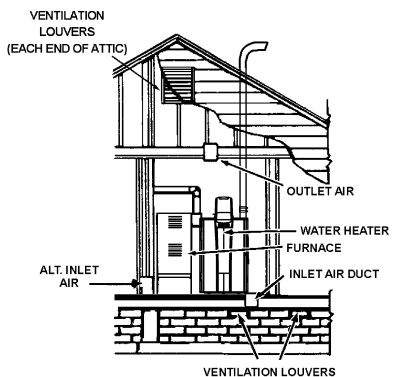

FIGURE 12
B. ALL AIR FROM OUTDOORS: (See Figures 12, 13 and 14)
1. When directly communicating with the outdoors, each opening should have a minimum free area of 1 square inch per 4,000 Btu per hour (5.5 cm²/kW) of total input rating of all equipment in the enclosure (see Figure 12).